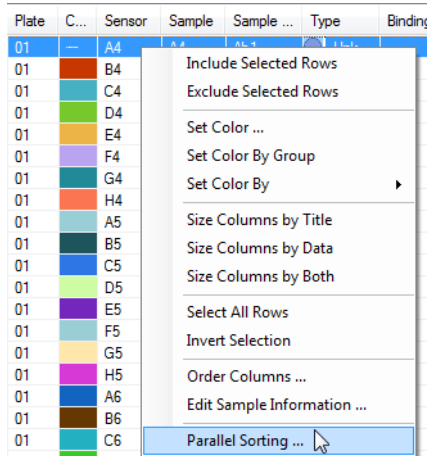

Figure 5-56: Parallel Sorting Menu
1. Right-click the Results table and select **Parallel Sorting** (Figure 5-56).